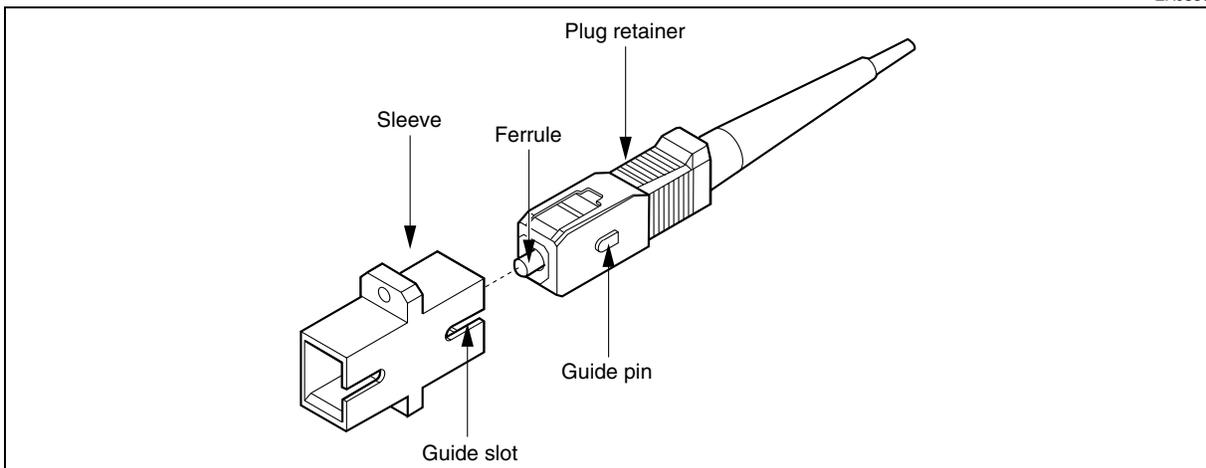

Figure 4-4
- straight (ST), the bayonet press-and-twist type. See Figure 4-4 on page 4-15.
24	Insert the ferrule into the universal adapter sleeve. Ensure the guide pin enters the guide slot. See Figure 4-4 on page 4-15 .